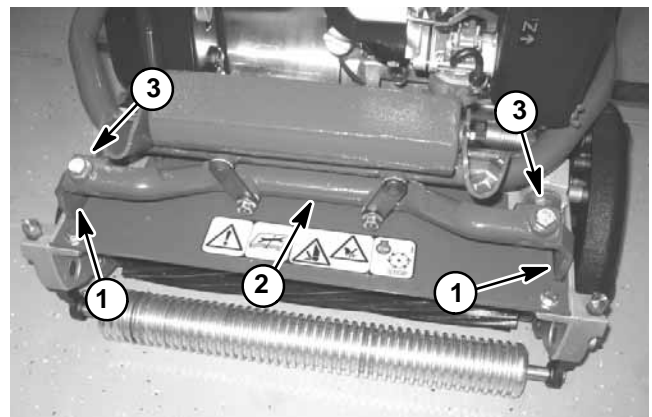

Figure 2
4. Remove two (2) cap screws and flat washers securing cutting unit pitch arms to traction unit front frame (Fig. 2).